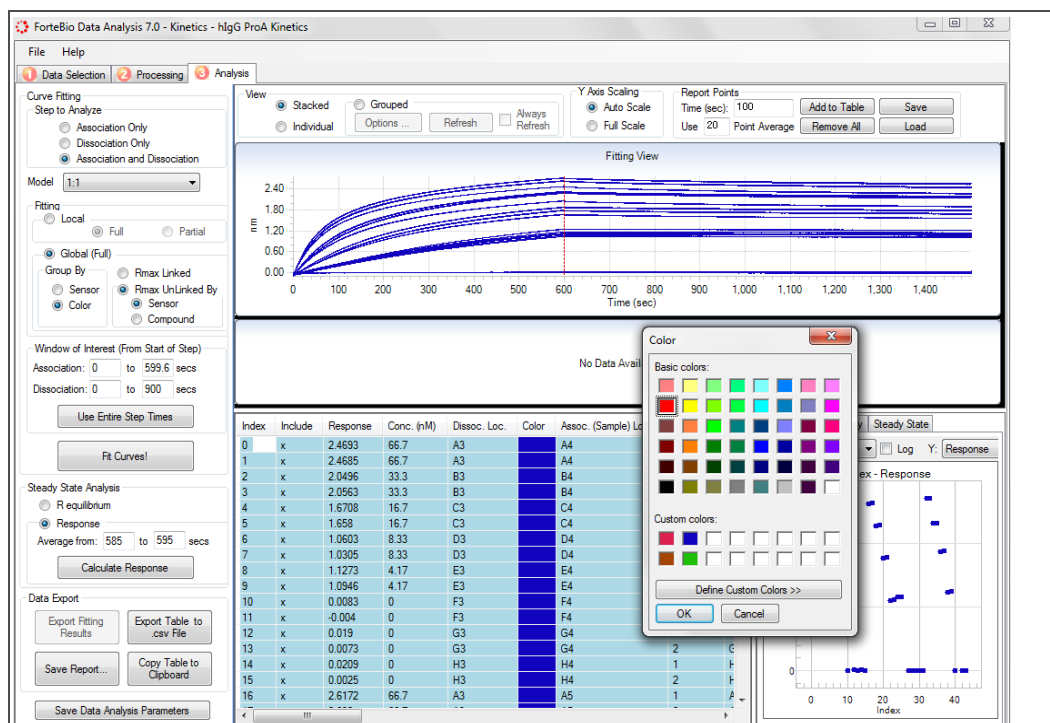

Figure 5-53: Changing the Color of User-Selected Results
- **Set Color**—Opens the color palette that enables you to choose a color for the selected results (see Figure 5-53).